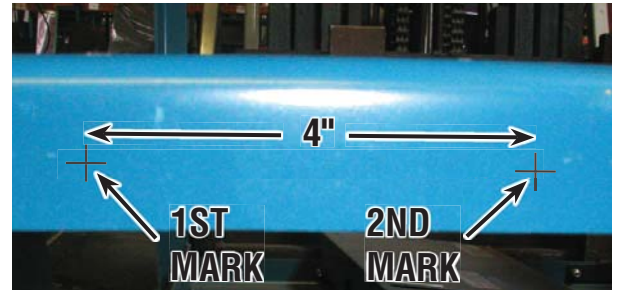

FIGURE 13
13. Make a second mark 4" to the right of the first, 5/8" up. See Figure 13.